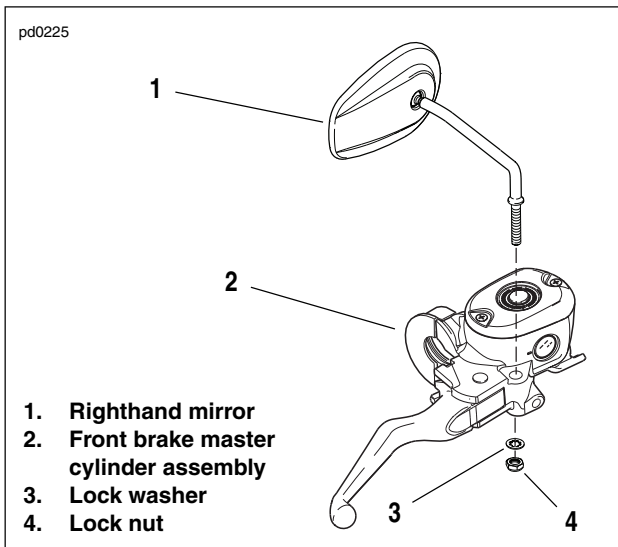

Figure 5-4. Installing Righthand Mirror on XL 883L
- a. See Figure 5-4. Insert mirror (1) stem into hole in master cylinder assembly (2).
- b. Install lock washer (3) and lock nut (4). Tighten to 96-144 in-lbs (10.9-16.3 Nm).